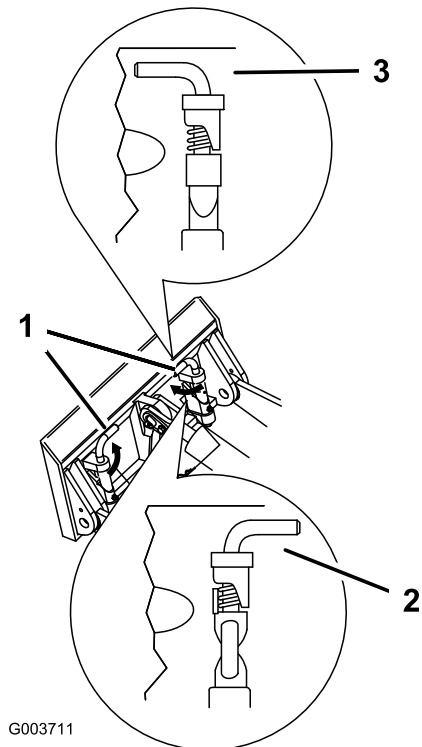

Figure 14
- Engage the quick attach pins, ensuring that they are fully seated in the mount plate (Figure 14).